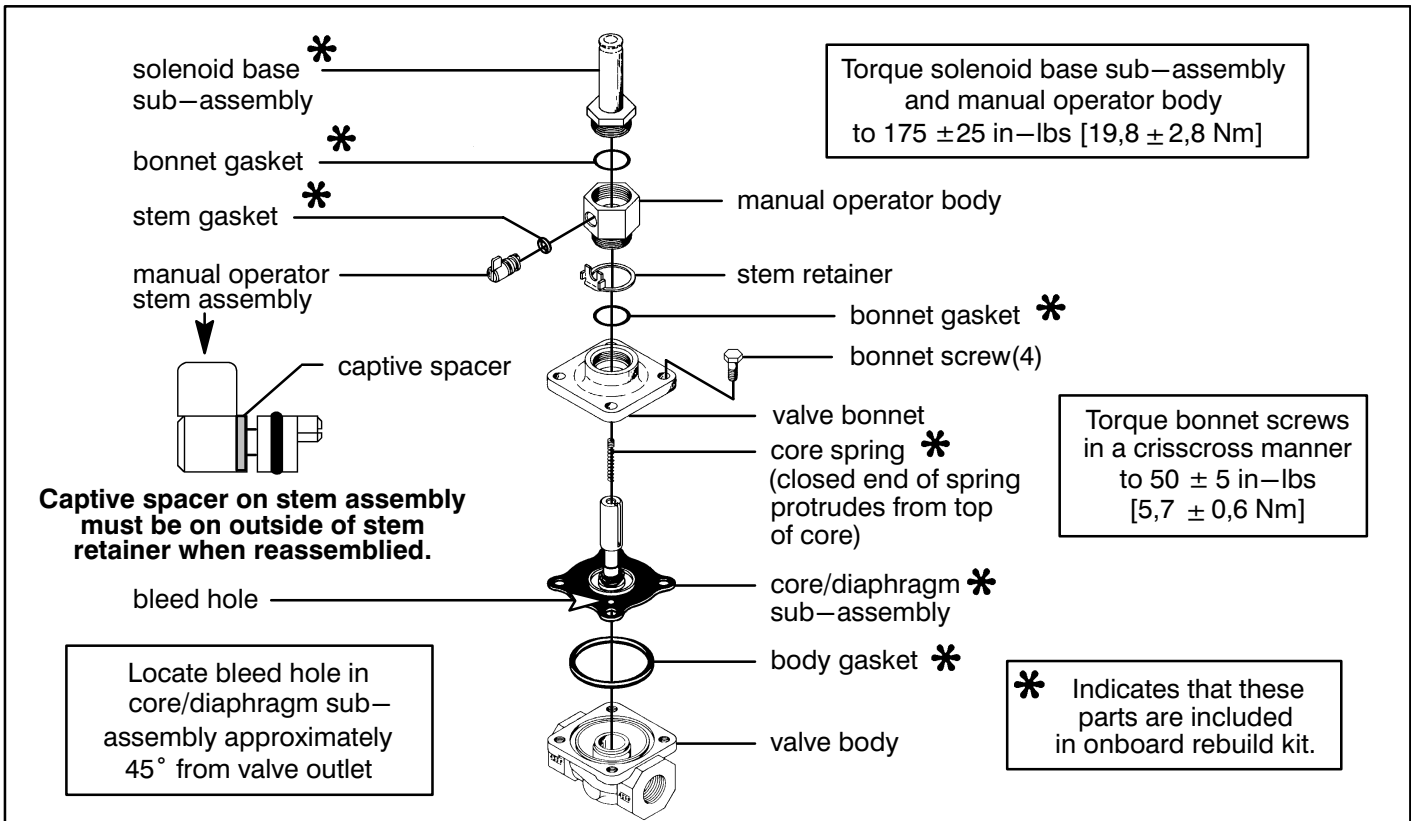

Figure 2. Series 8222 stainless steel construction with manual operator.
4. For valves made of stainless steel (Figure 2) with a manual operator, unscrew manual operator body. Then remove bonnet gasket, stem retainer, stem assembly and stem gasket.
6. For valves of stainless steel construction (Figure 2) with a manual operator proceed as follows: